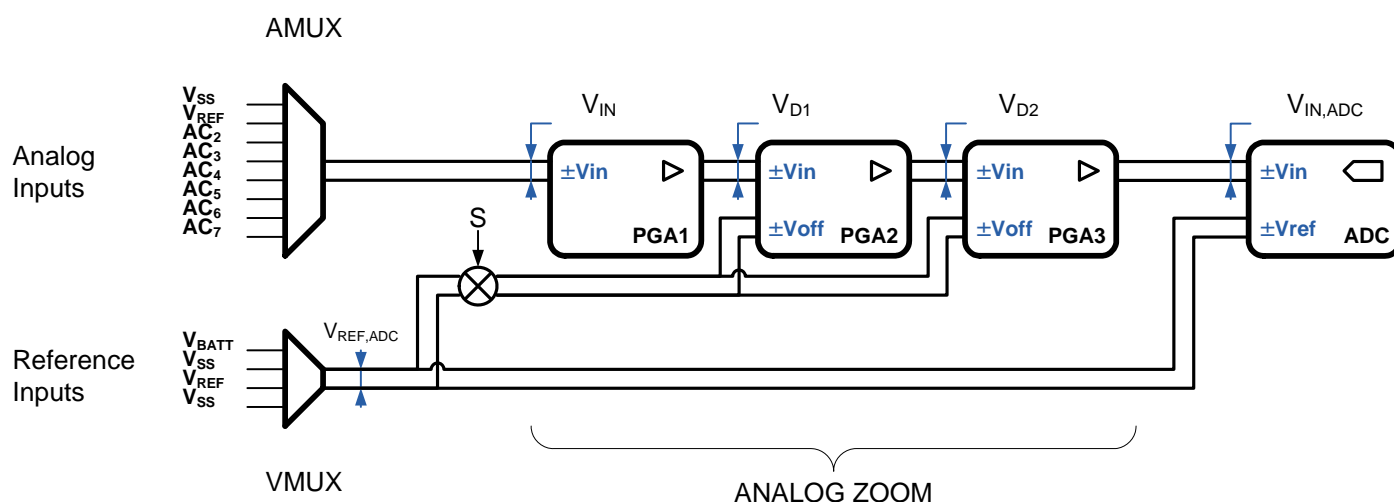

Figure 11. ZADC General Functional Block Diagram
Figure 11, page 17 shows the general block diagram of the acquisition chain (AC). A control block (not shown in **Figure 11**) manages all communications with the SPI peripheral. The clocking is derived from the internal 4 MHz Oscillator.
As seen in Figure 11, page 17, the zooming function is implemented with three programmable gain amplifiers (*PGA*). These are: